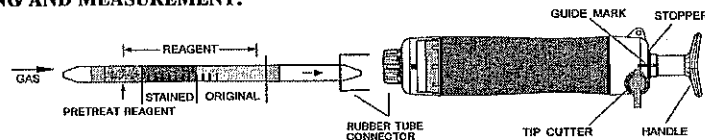

Fig.1
- ② Insert the detector tube into the aspirating pump securely as shown in Fig.1. (Arrow mark shall point to the pump.)
- ③ Align the guide marks on the shaft and stopper of the aspirating pump.
- ④ Pull the pump handle at a full stroke until it locks and wait for 2 minutes or until the completion of sampling is confirmed with the flow indicator of the pump (See descriptions about the flow indicator in the instruction manual of the pump).
- ⑤ On completion of sampling, read the scale at the maximum point of the stained layer.
- ⑥ When the concentration is over the scale range, a 1/2 pump stroke can be used to determine concentrations of 10 to 300 ppm.